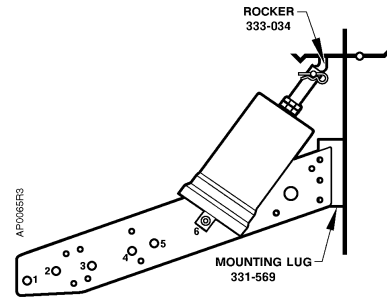

Figure 8. No. 4 Actuator Frame Mounting, Normally Open Damper.
- b. Normally open damper: attach plate to lug (Figure 8). Place pivot post in Hole 6.